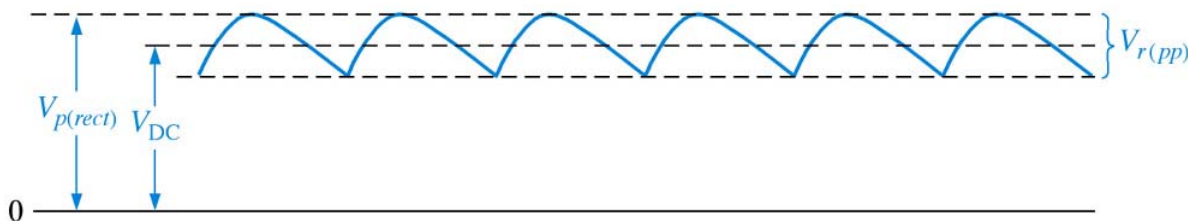

Figure 5
- Though the output of the circuits is a DC current, but its amplitude fluctuates, i.e., it does not change direction but amplitude changes as shown in Figure 5. In order to smooth the rectified output voltage, a filter is needed. An electric filter is a Capacitor-Resistor circuit that stores voltage when the rectified DC voltage is high and discharges the stored voltage when the rectified DC is low. Now, the power supply filter is examined.
Connect a $22 \mu F$ filter capacitor in parallel with the load resistor (R_L). Check the polarity of the capacitor- the negative side goes towards ground (the long lead of capacitor is positive). Measure the dc load voltage, V_{out} (DC), and peak to peak ripple voltage, $V_{r(pp)}$, in the output as show in Figure 5. To measure the ripple voltages, switch the oscilloscope to AC coupling. This slows you to magnify the small ac ripple voltage without including the much larger dc level. Measure the ripple frequency at which the waveform repeats.